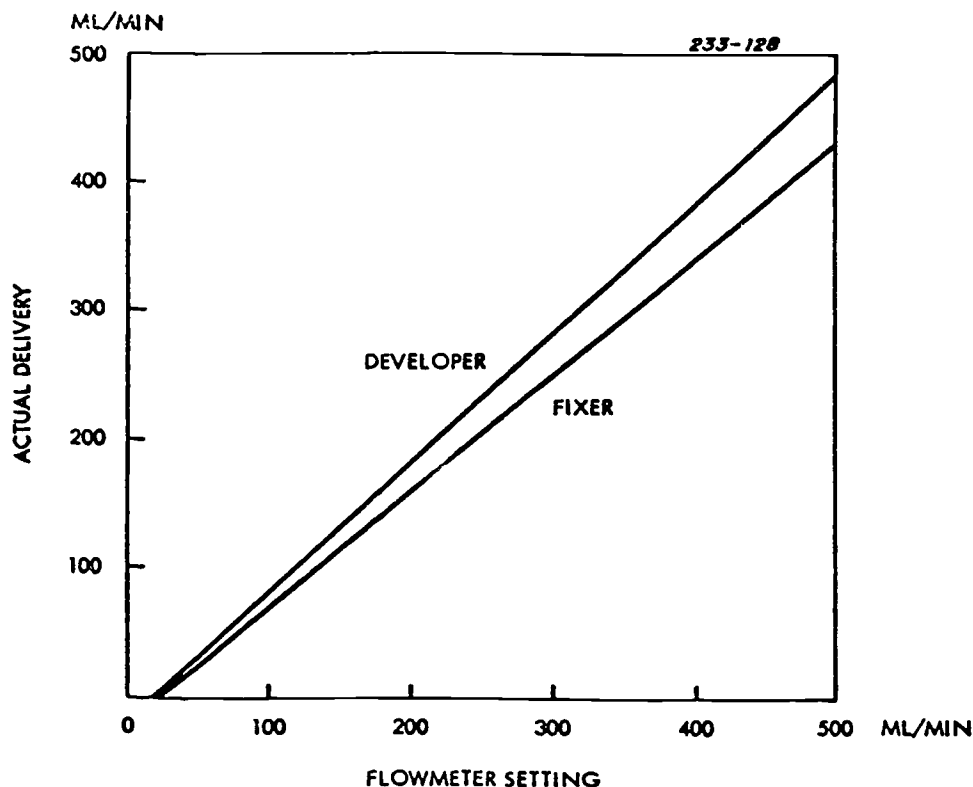

Figure 2-5. Typical flowmeter calibration curves.
718. Using figure 2-5 as necessary, specify the procedure for flowmeter calibration on the Versamat 11-cm processor.
plotted on a graph, as shown in figure 2-5. Proceed as follows to obtain the readings.
e. Plot the readings obtained on a graph, as shown in figure 2-5.
g. After cleaning, rerun the test described in steps a through e above, and compare the result with the chart in figure 2-5.